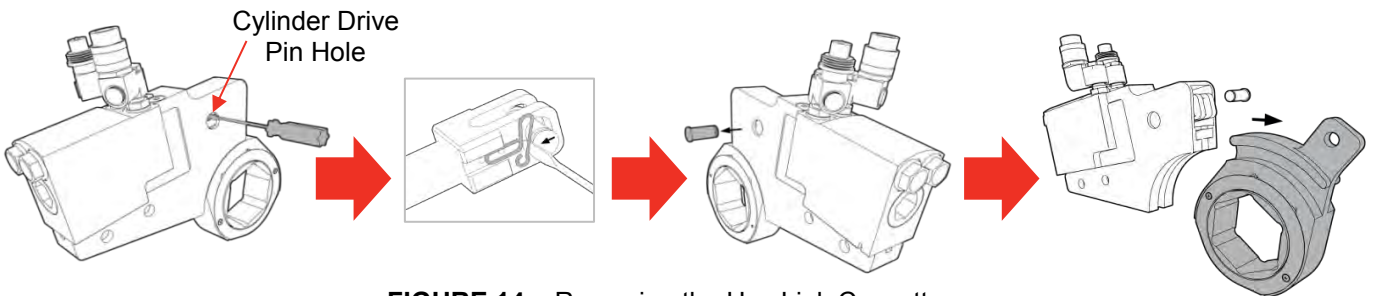

FIGURE 14 – Removing the Hex Link Cassette
1. Remove the Hex Link Cassette from the tool (see FIGURE 14).